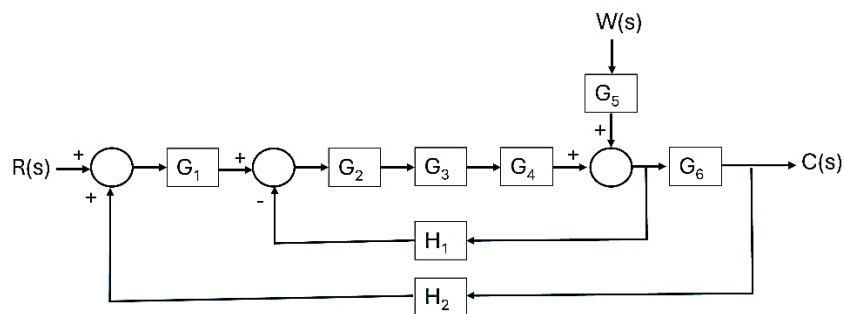

Figure 2 – Block diagram of a heat exchanger system.
- (b). Figure 2 shows the block diagram of a heat exchanger system. Find the equivalent transfer function, $T(s) = C(s)/R(s)$ using